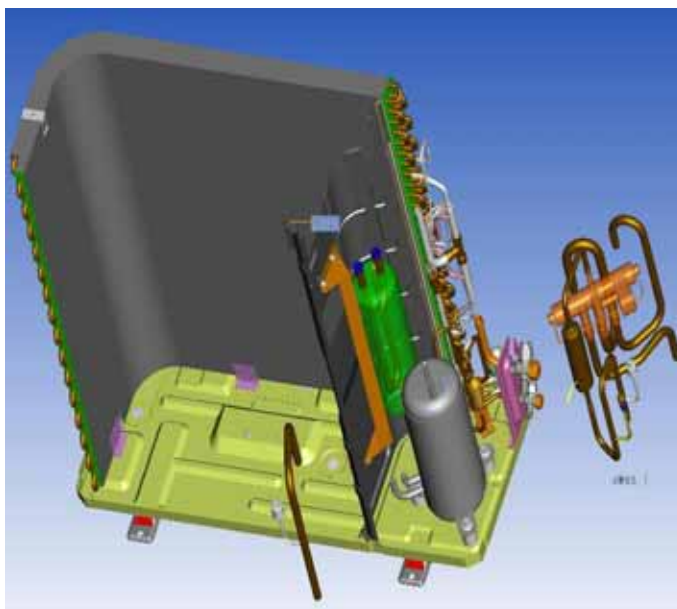

Fig.12
- welding out the pipe connected to the gas valve **[See Fig.12]**